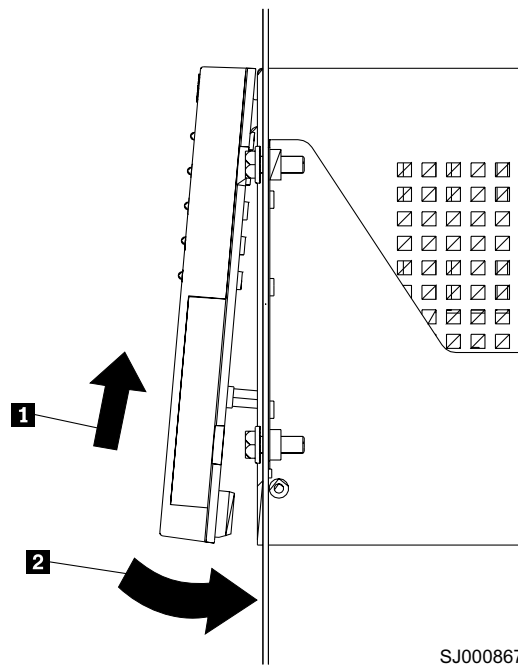

Figure 10. Replacing the controller-unit bezel (machine types 3552 and 1742)
4. To replace the bezel, slide the top edge under the lip on the chassis **1**; then, push the bezel bottom until the pins snap into the mounting holes **2**, as shown in Figure 10.